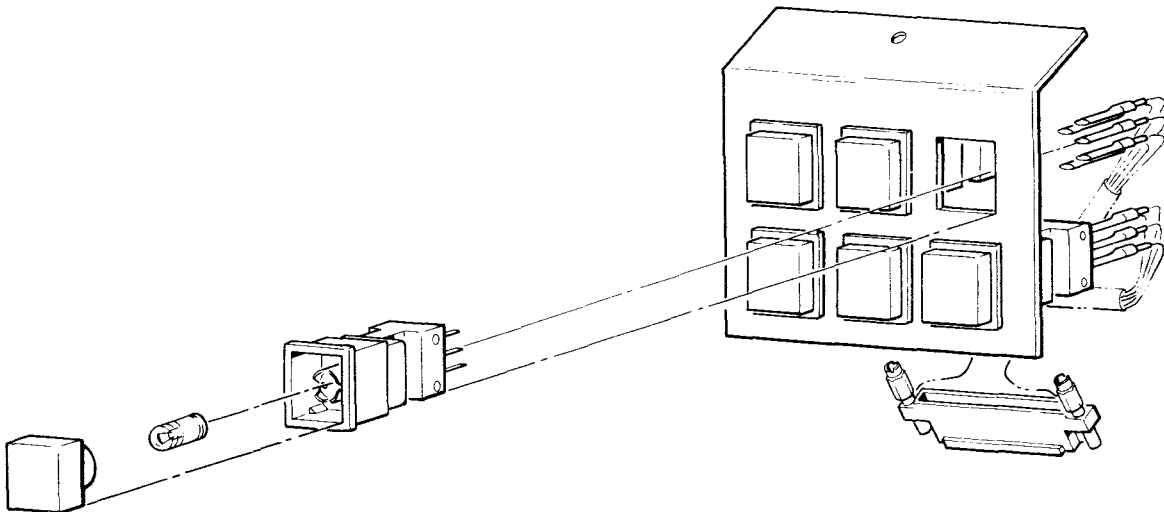

Figure 6-3. Indicator Lamp Replacement
3. Remove the operator panel by loosening the retaining screws that secure the plug to the operator control PWA. The operator panel, back panel wiring, and the plug can be removed as a unit (see Figure 6-3).
5. Raise up the top cover. Loosen the four (4) 11/32" nuts that retain the hinge plate to the cover assembly. With all four nuts loose enough to be turned with the fingers, support the cover with one hand and remove the four 11/32" nuts, washers, and lockwashers. Lift the cover free of the drive.
Indicator lamps are located on the Operator Control Panel (figure 6-3). Because lamp failures do not affect drive operations, lamps are replaced only after failure. Pressing the stop button illuminates all the lamps for operation verification. Replace a defective lamp as follows: